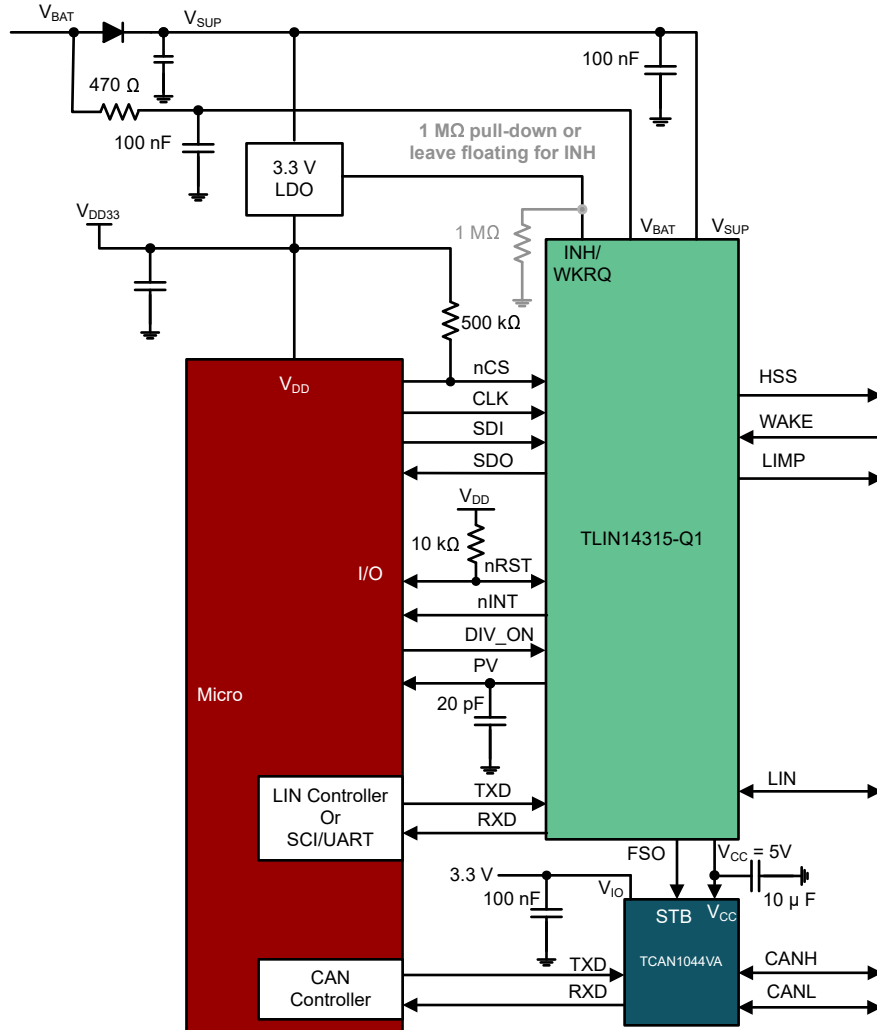

Figure 8-22. Channel Expansion: CAN Transceiver
- One LIN and one CAN FD transceiver by using a simple eight pin CAN FD transceiver, see Figure 8-22